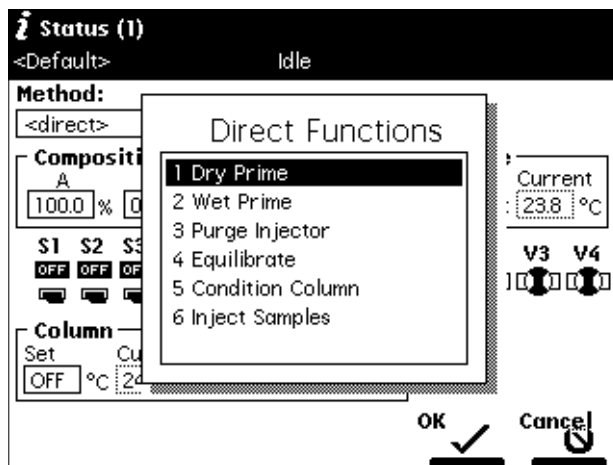

Figure 3-4 Direct Functions Menu
2. Press the **Direct Function** screen key. The Direct Functions menu appears (Figure 3-4). Table 3-2 describes each of the direct functions.